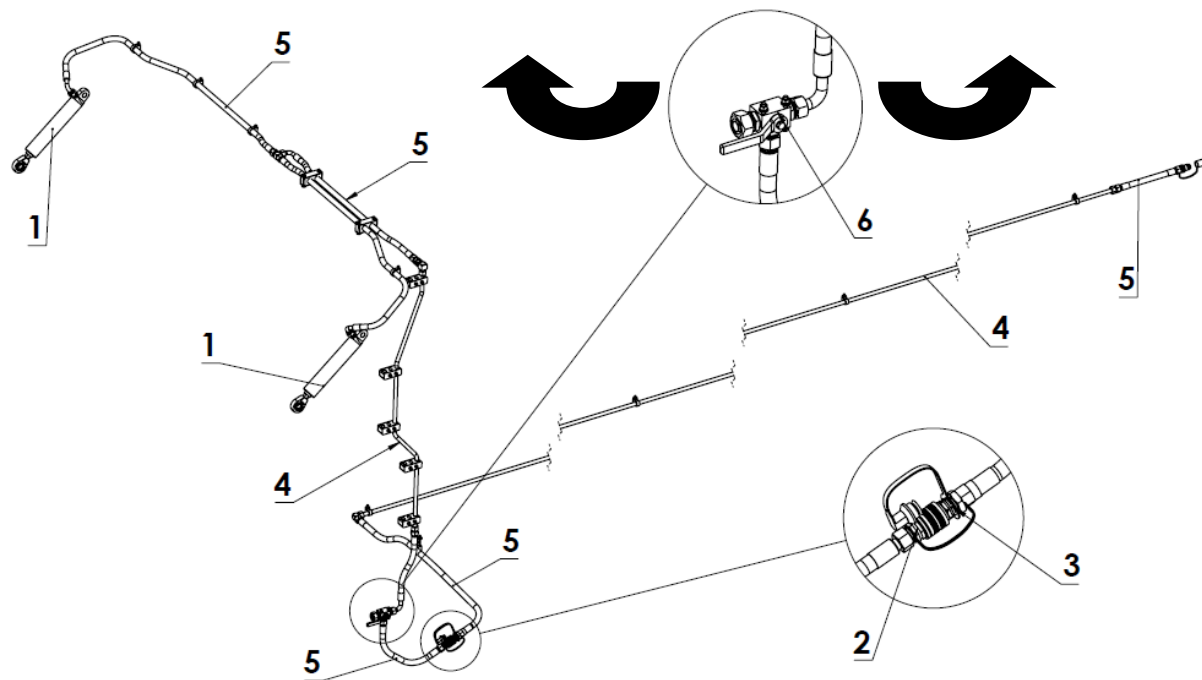

Figure 4.10. Design of adapter guard system
The installation (fig. 4.10) makes it possible to raise and lower the maintenance guard by means of two actuators (1) with unilateral operation (instructions concerning raising of the guard during maintenance are given in section 6). The raising motion is realized through powering of the installation by the tractor, and lowering occurs spontaneously after oil is drained. The installation consists of a three-way valve (6), which can perform the following functions as the lever's position is changed: